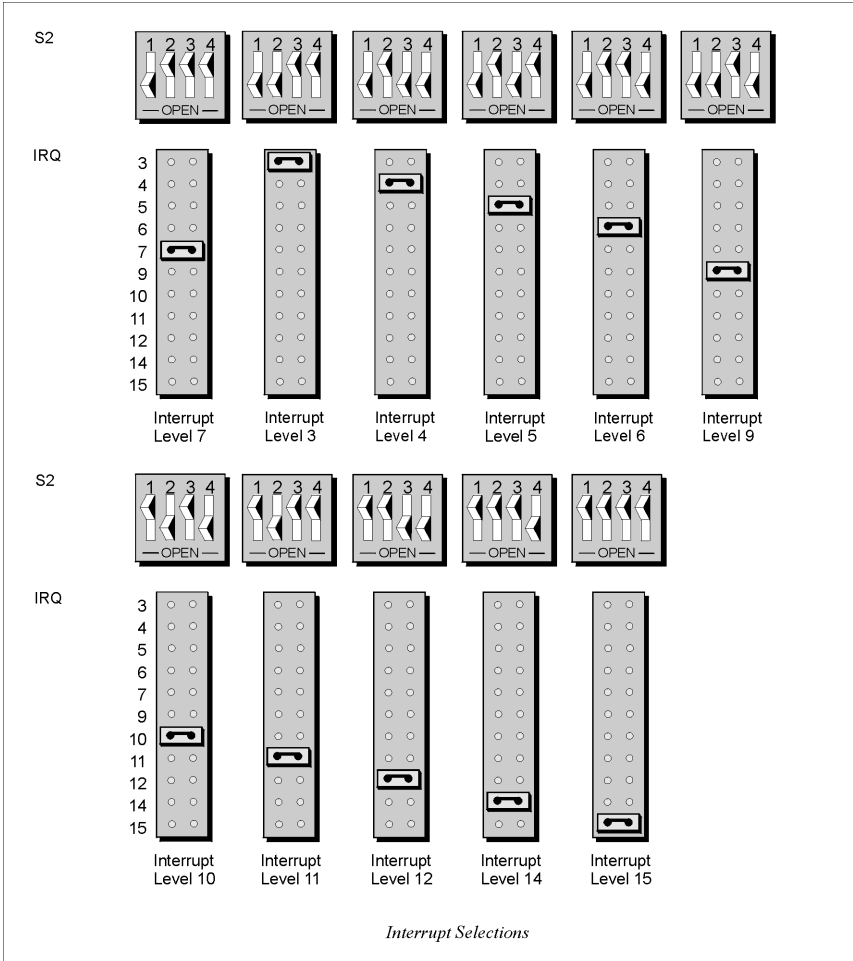

Figure 4-3. Configuring the Personal 488 ISA Card Interface Interrupt (IRQ).
1. The factory-default Interrupt (IRQ) is 7. If this creates a conflict, reset SW2 and jumper IRQ according to **Figure 4-3**. The switch and jumper settings must both indicate the same interrupt level to operate correctly with interrupts.